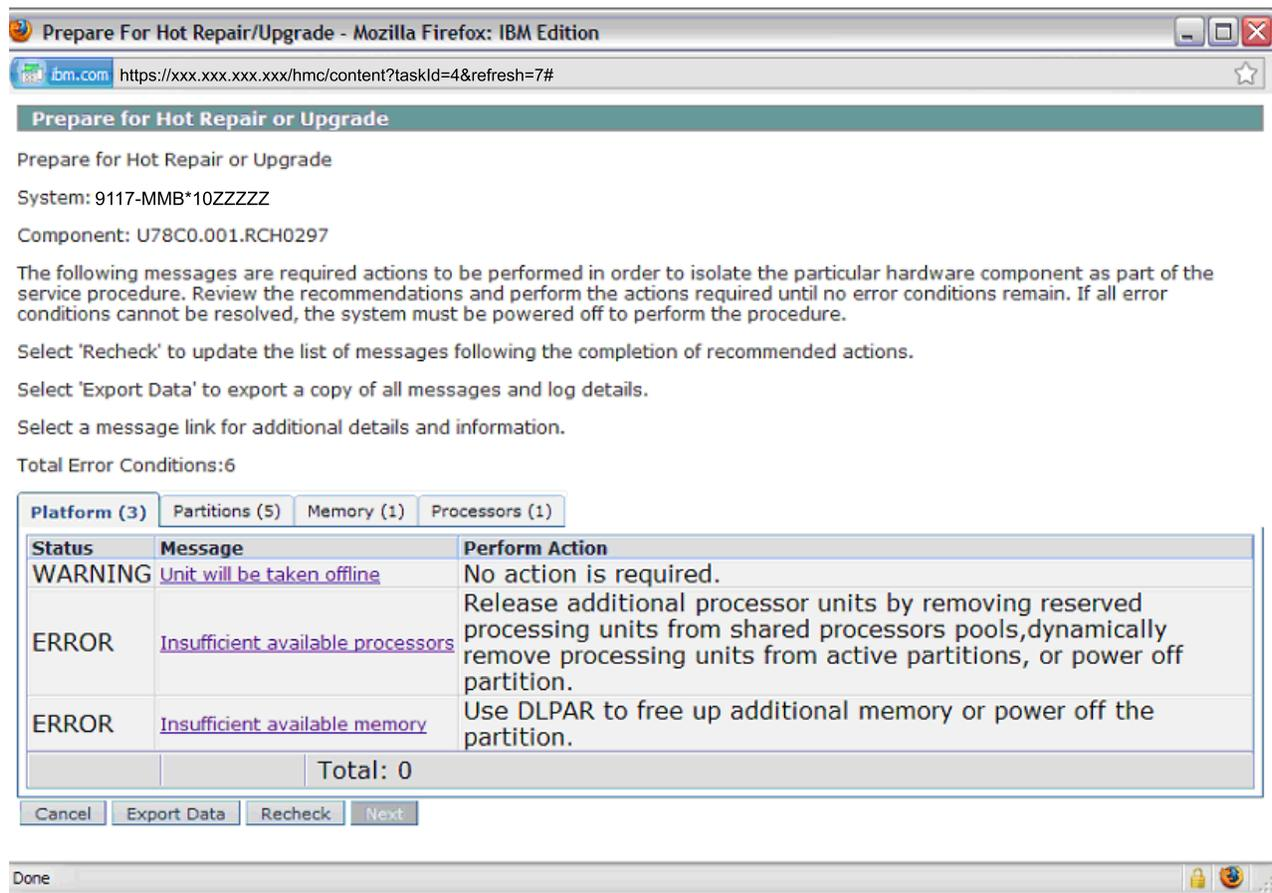

Figure 2. Prepare for Hot Repair or Upgrade Main window
- A window lists the set of actions that must be performed (prior to the CEC hot-node add and hot-node repair maintenance operation) for the node evacuation to be successful. An example of this window is shown in Figure 2 on page 17.